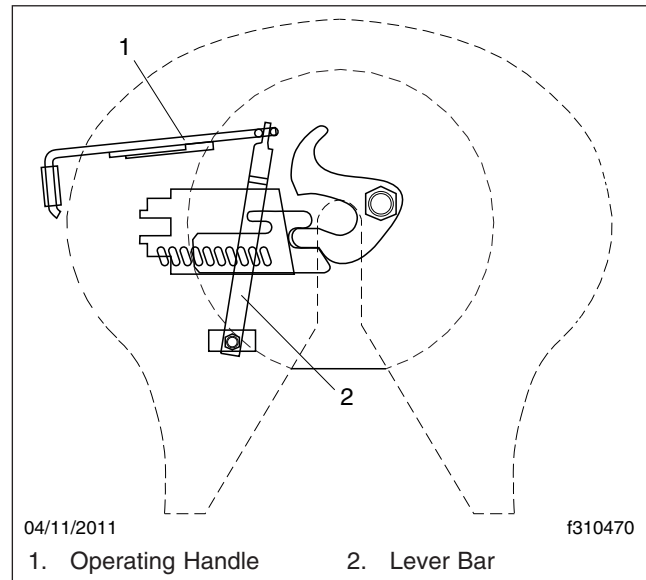

Fig. 6, Lever Bar and Operating Handle Alignment
5. The lever bar and operating handle must be in proper alignment. See **Fig. 6**. Compare the lever bar and operating handle alignment to a new, or a properly operating lever bar and operating handle. Replace any bent or misaligned lever bar or operating rod.